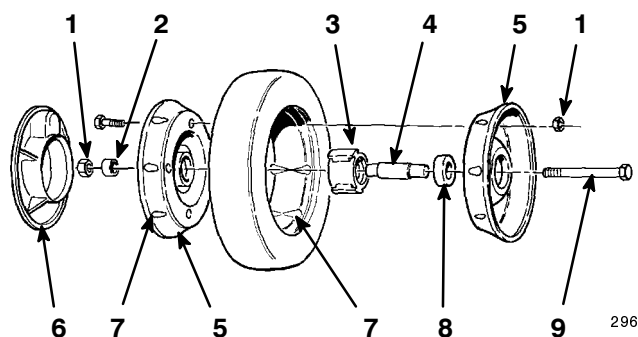

Figure 35
3. Remove the cap screw, the wheel spacer, and the locknut mounting the wheel to the pivot arm (Fig. 35).
4. Separate the wheel halves from the tire by removing four cap screws and four locknuts (Fig. 35).
Note: If you remove the bearings from the bearing/hub assembly, remove them by pressing on the bearing spacer (Fig. 35).
1. Position the tire onto one wheel half, aligning the lugs on each (Fig. 35).
2. Place the bearing/hub assembly into the center hole of the wheel half. Ensure that the legs of the hub are positioned over the flange of the hole (Fig. 35).
3. Place the other wheel half onto the bearing/hub assembly, aligning the wheel and the tire lugs and the mounting holes (Fig. 35).
4. Using two 1/4–20 x 1.50 in. (6 x 38 mm) fully threaded screws or bolts and non-locking nuts, loosely secure the wheel halves together. Mount the screws or bolts in the opposing holes (Fig. 35).
5. Check the alignment of all parts and tighten the screws, alternating from side to side for a uniform fit, until the wheel halves are drawn together (Fig. 35).
6. Install the two cap screws and two locknuts previously removed in the remaining holes in the wheel halves and tighten. Remove the two long screws or bolts and replace them with two cap screws and two locknuts (Fig. 35).
7. Install the wheel to the pivot arm with the cap screws, a spacer, and a locknut. Ensure that the spacer is positioned between the wheel hub and the pivot arm (Fig. 35).